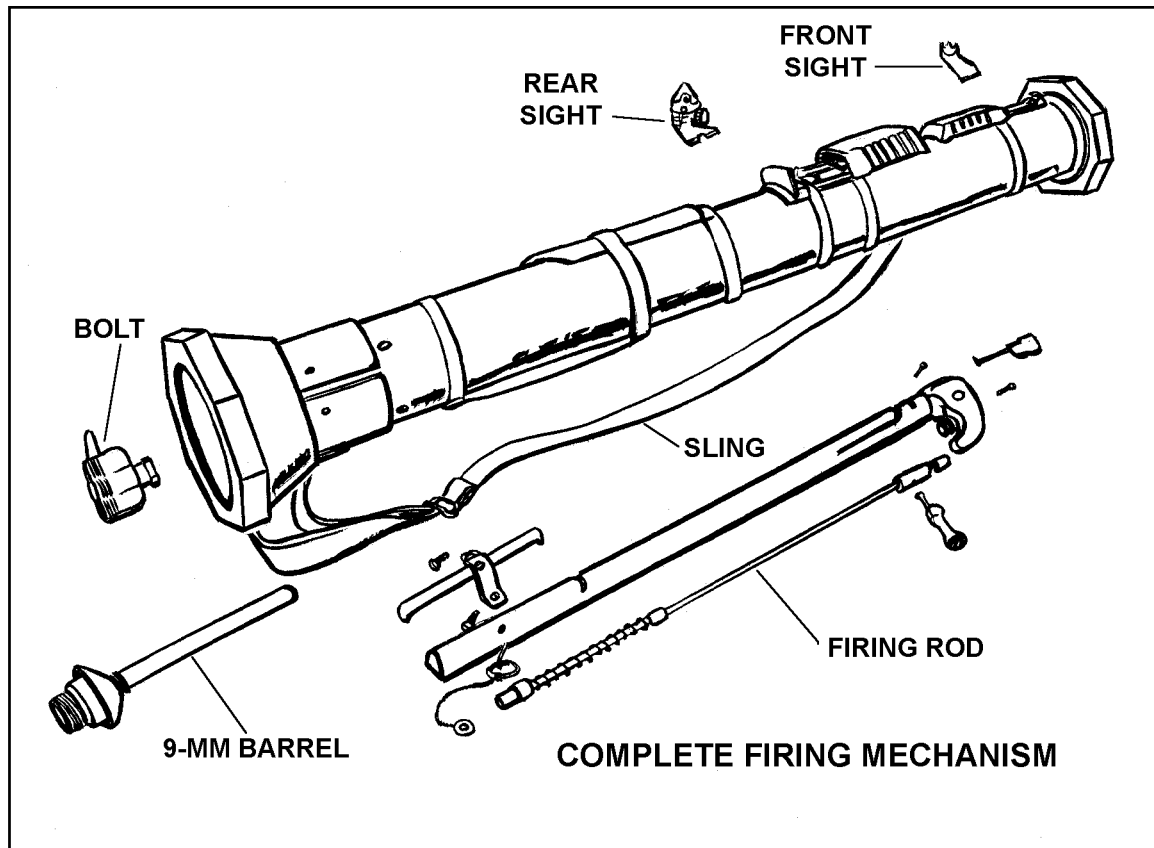

Figure B-7. Replaceable parts for the M287 tracer trainer.
(3) If the M287 tracer trainer is damaged, the unit armorer can replace its complete firing mechanism, firing rod, bolt, sights, sling, and 9-mm barrel assembly (Figure B-7).